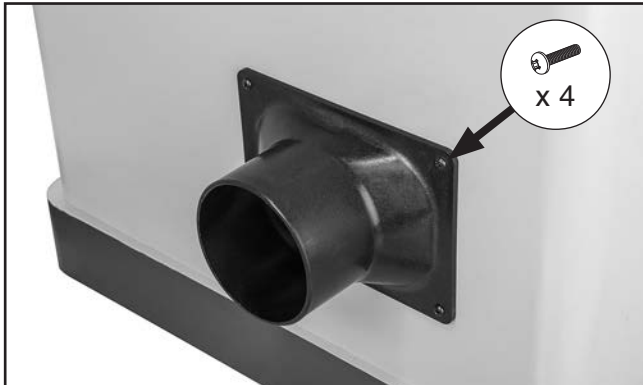

Figure 33. Dust port installed.
30. Secure rear access panel with (6) Phillips head screws.
31. Mount dust port with (4) Phillips head screws (see **Figure 33**).